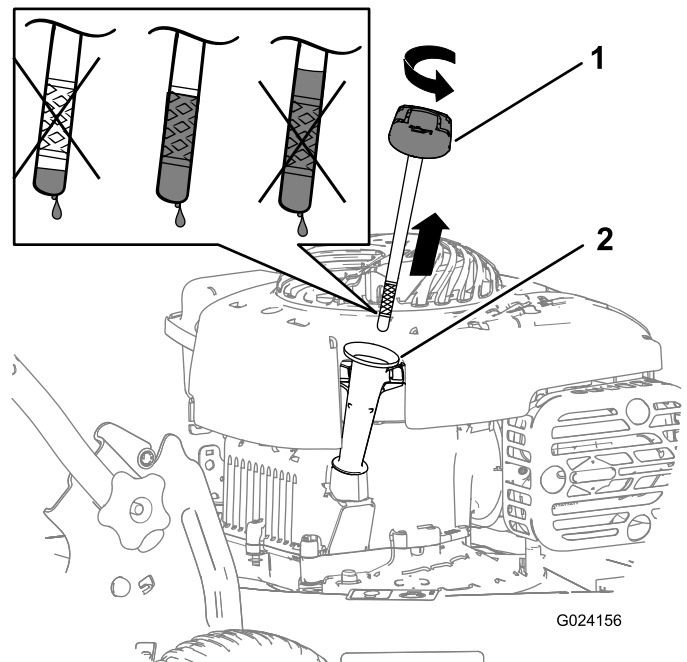

Figure 8
2. Remove the dipstick (Figure 8).
5. Remove the dipstick and read the oil level; refer to Figure 8.